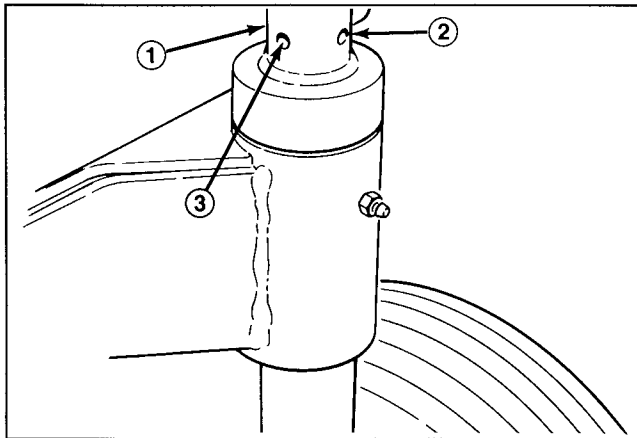

Figure 2
2. Align key way in handle assembly with key and slide handle onto shaft (Fig. 2)
3. Insert roll pin into mounting hole and drive pin in until flush with edge of handle assembly (Fig. 2).
4. Apply loctite #242 to set screw. Install screw to handle assembly and tighten (Fig. 2).